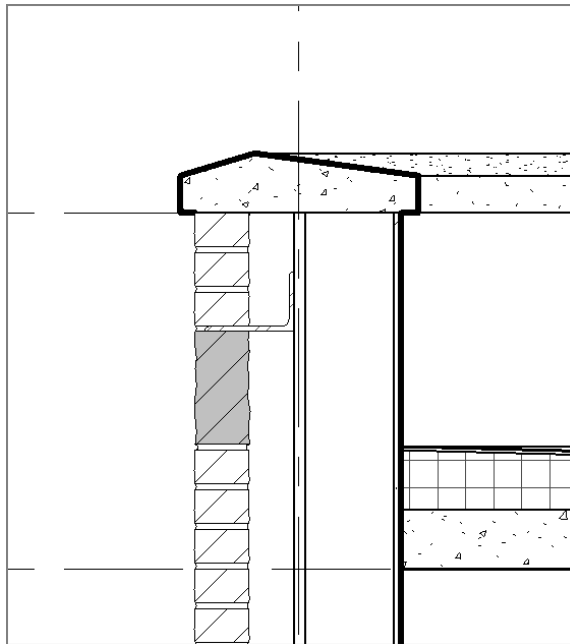

FIGURE 12.35: The angle in place and looking like an angle
9. Adjust the angle so it looks like Figure 12.35.